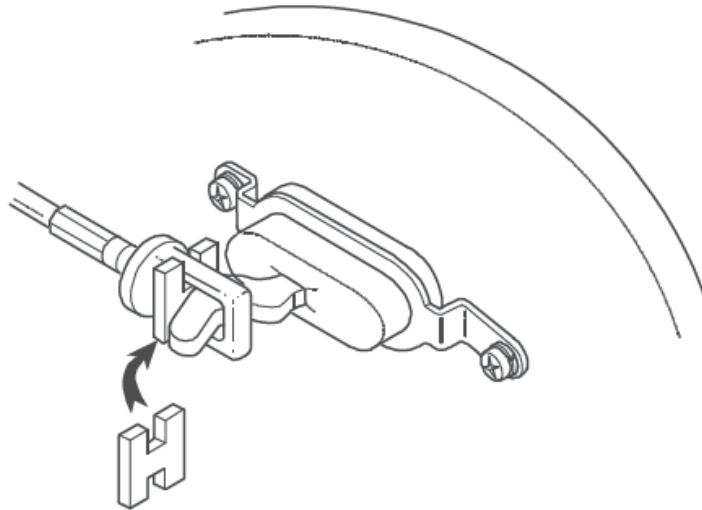

Figure 10 Fitting of Brake Cable and 'H' Plate
- q. Fit the 'H' plate to the cable end, move the brake shoe draw link to the fully applied position and slip the cable connecting piece onto the lever (Figure 10).
- d. Move the brake shoe draw link to the fully applied position and slip both cable connecting pieces into position on their respective draw link at each backing plate. Ensure the 'H' plates are fitted into the cable ends (Figure 10).